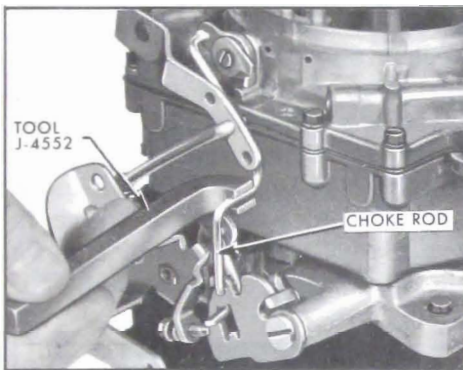

Figure 3-60—Adjusting Fast Idle Cam
2. If choke valve clearance is not correct, bend choke rod as required to obtain this clearance using Tool J-4552. See Figure 3-60.